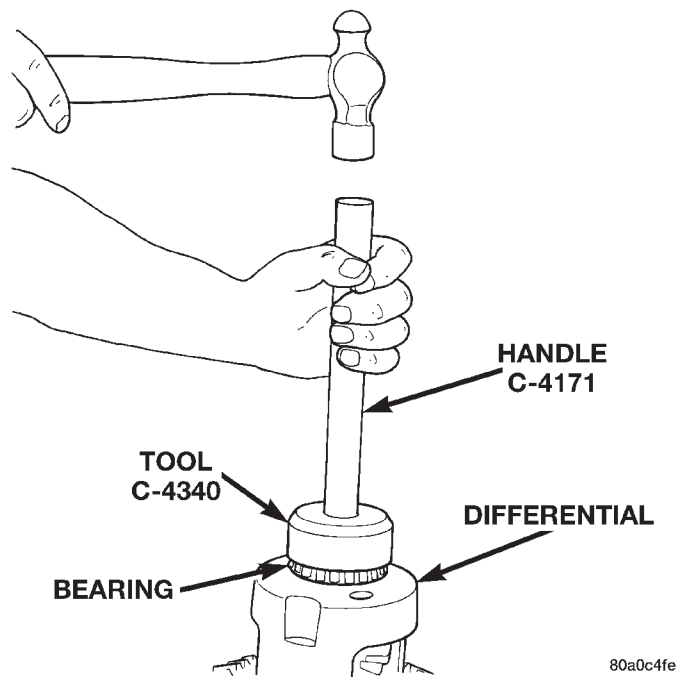

Fig. 41 Differential Side Bearing Installation
(2) Using Installer C-4340 and Handle C-4171, install differential side bearing (Fig. 41).